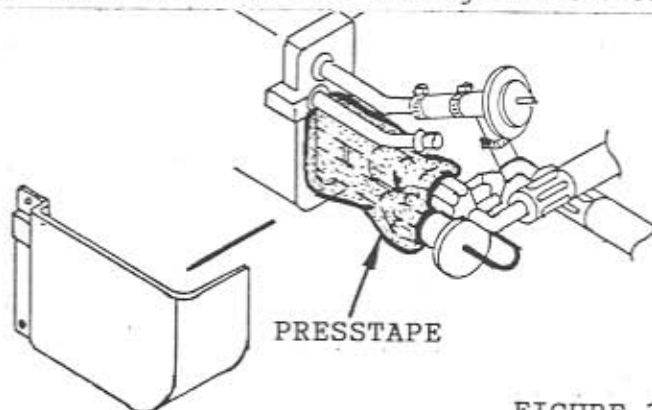

FIGURE 3
11. Install and tighten evaporator fittings with hose attached to the evaporator. Place the evaporator on a work bench and tighten each connection with two wrenches, one on the fitting and one on the counterpart fitting attached to the evaporator. Reinstall evap blower motor cover at this time. As Figure 3 shows.